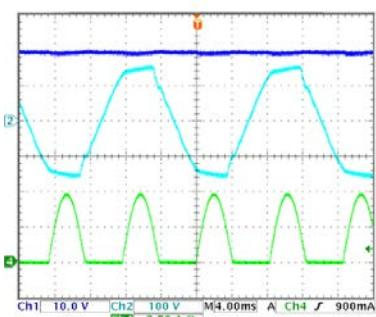
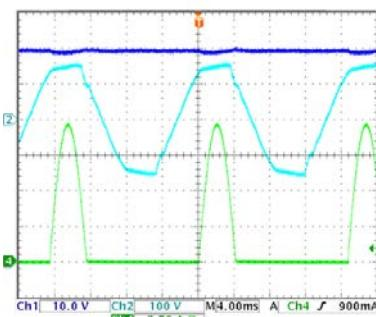
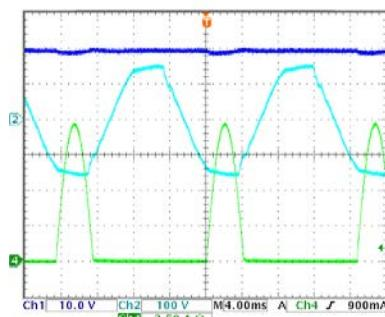

Figure 3-15 All
Figure 3-16 Positive
Figure 3-17 Negative
The load current under rectified mode is shown as *Figure 3-15, 3-16 and 3-17*. This load current is rectified sine wave so needs to set CF value.
The loading conditions of the following three figures (*Figure 3-15, Figure 3-16 and Figure 3-17*) are the waveforms getting from  $V_{source}=60V_{DC}$ ,  $I_{set}=10A$ ,  $CF=2$ ,  $LINE\ SYNC=YES$ . The waveform on the top (Channel 1) is DC voltage  $V_{source}$ , on the medium (Channel 2) is power line voltage of frequency 60Hz and on the bottom (Channel 4) is load current.
This load frequency is two times of power line frequency (please refer *Figure 3-15*). For example: power line frequency is 60Hz thus the load frequency of the current is 120Hz.
**Positive:** Using the power line frequency as the reference frequency for the load current, for the Positive setting, the positive half period of the power line is loading  $V_{source}$  (UUT). This load frequency is the same as power line frequency (please refer *Figure 3-16*, *Figure 3-17*). For example: power line frequency is 60Hz thus the load frequency of the current is 60Hz.
**Negative:** Using the power line frequency as the reference frequency for the load current, for the Negative setting, the negative half period of the power line is loading  $V_{source}$  (UUT). This load frequency is the same as power line frequency (please refer *Figure 3-16*, *Figure 3-17*). For example: power line frequency is 60Hz thus the load frequency of the current is 60Hz.
The load current in rectified mode are shown in *Figure 3-15*, *Figure 3-16* and *Figure 3-17*; it's a rectified sine wave, therefore the CF value needs to be set.